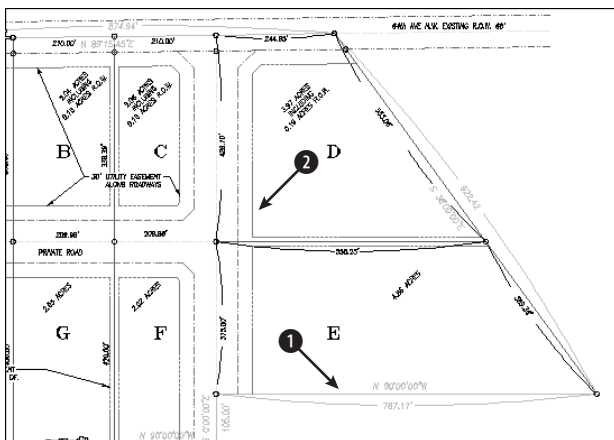

Figure 12-13: The site plan zoomed in to parcels D and E
2. If you didn't do the previous exercise, use ZOOM Window to zoom in to the parcels labeled D and E, as shown in Figure 12-13.
4. Choose Draw ⇨ Point ⇨ Divide. At the Select object to divide: prompt, choose ① in Figure 12-13. At the Enter the number of segments or [Block]: prompt, type 3 ↵. AutoCAD places two points along the line, dividing it into three segments. (If you want, draw lines from the points perpendicular to the opposite side of the parcel to divide it into three parcels.)
5. Choose Draw ⇨ Point ⇨ Measure. At the Select object to measure: prompt, choose ② in Figure 12-13. At the Specify length of segment or [Block]: prompt, type 120 ↵ (10 feet). AutoCAD places two points along the line.